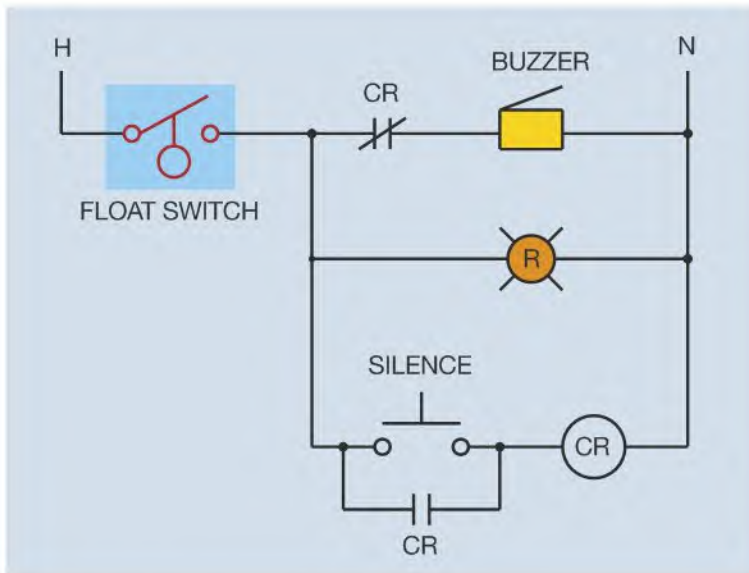
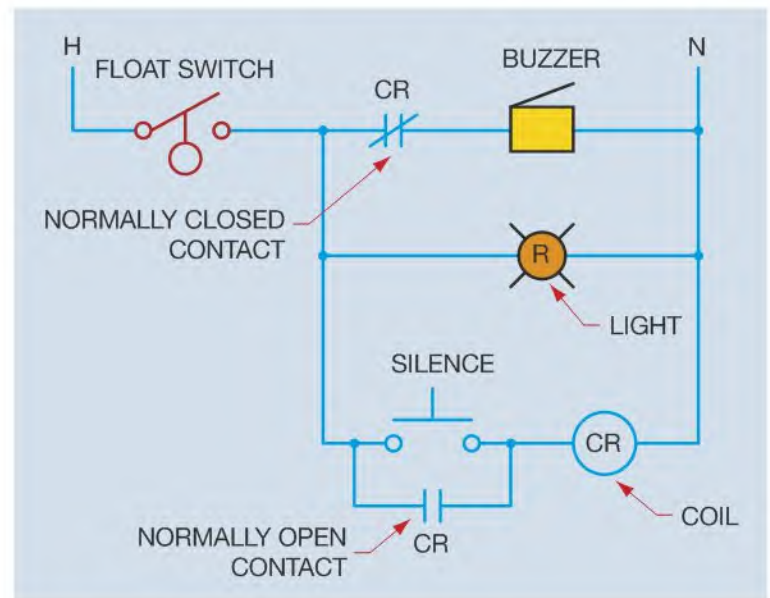

Figure 2-33 Low water warning circuit.
Figure 2-34 Circuit with labeled components.
The normally closed held open switch is shown open in Figure 2-31. Although the switch is shown open, it is actually a normally closed switch because the movable contact is drawn *above* the stationary contact, indicating that something is holding the switch open. A good example of how this type of switch can be used is shown in Figure 2-33. This circuit is a low water warning circuit for a steam boiler. The float switch is held open by the water in the boiler. If the water level should drop sufficiently, the contacts will close and energize a buzzer and warning light.
To understand the operation of the circuit shown in Figure 2-33, you must understand some basic rules concerning schematic or ladder diagrams.
1. Schematics show components in their electrical sequence without regard for physical location. The schematic in Figure 2-33 has been redrawn in Figure 2-34. Labels have been added and show a coil labeled CR and one normally open and one normally